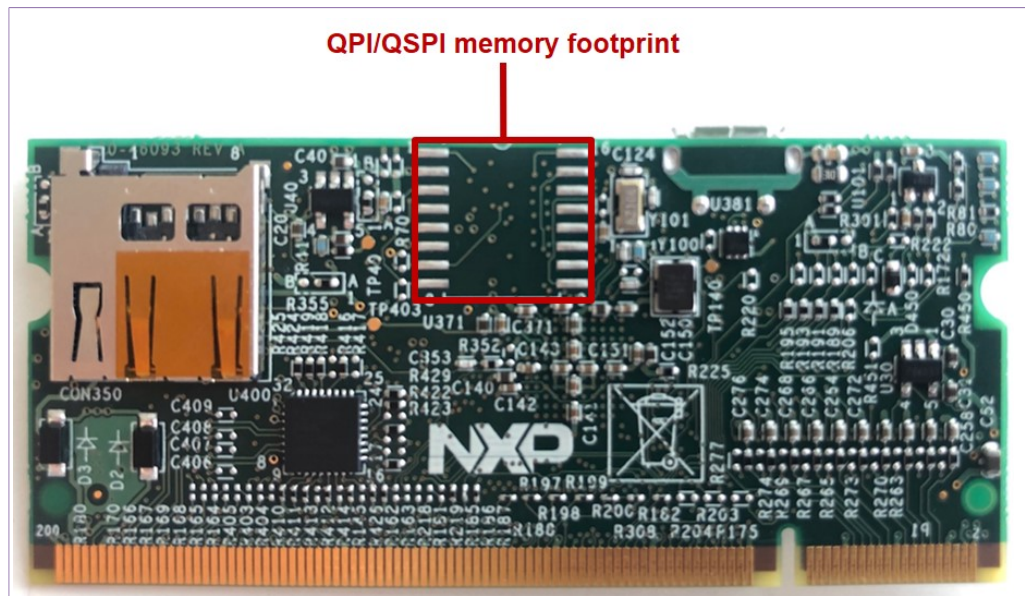

Figure 13. NOR Flash 64Mb QPI/QSPI memory footprint on PCB
3. The footprint to connect NOR Flash 64Mb QPI/QSPI memory as shown in Figure 13. It provides the ability to work 2xQSPI memories in parallel (extension the memory size) or to have additional NV memory as data storage (data logger functionality).